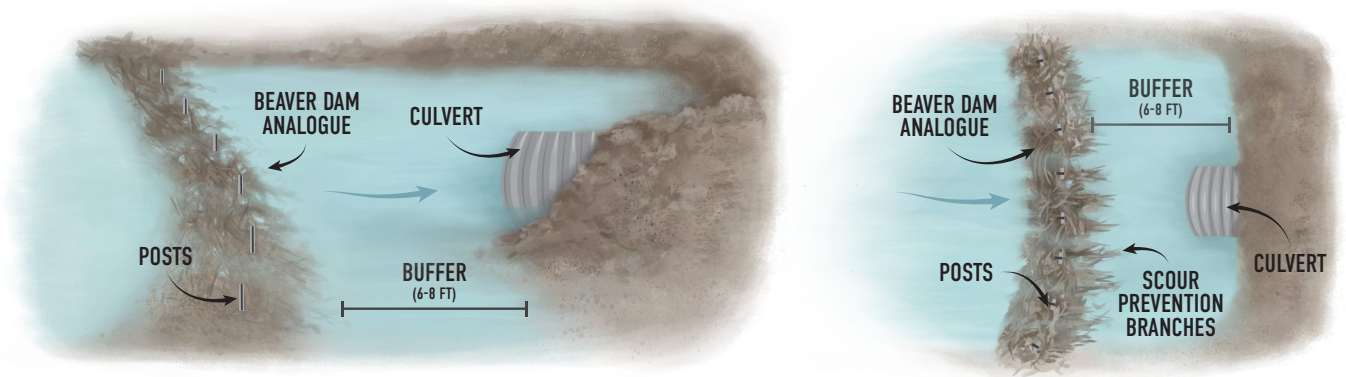
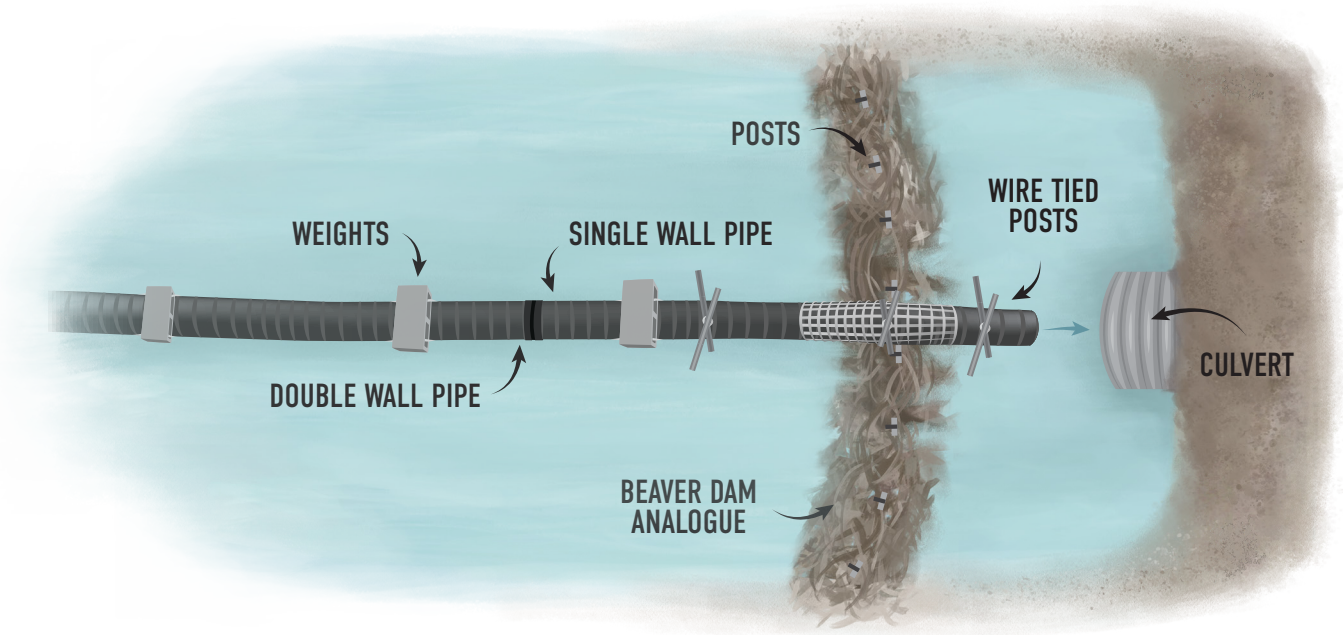

Figure 11. Anchor dam using a post-less BDA that is reinforced with steel posts.
Figure 12. Combination of an anchor dam and pond leveler to create a pipe and dam culvert protection system.
An **anchor dam** (Figure 11) is a similar strategy used to protect culverts at sites where fencing should not be used in the stream. This tactic includes construction of a Beaver Dam Analog (BDA) reinforced with steel posts—just upstream of the culvert mouth. While this tactic does not exclude the beavers from the infrastructure, it can divert them into investing and improving upon the reinforced BDA as their new dam, leaving the culvert open. This design can be modified to accommodate a pond leveler through the reinforced BDA if the extent of the upstream beaver pond must be limited. The modification of adding a pond leveler to an anchor dam is often called a **pipe and dam** culvert protector (Figure 12).
2. Stabilize with heavy-duty steel posts, firmly driven into the streambed no less than 12" apart (Figure 11).
- Position the overflow pipe over the anchor dam, using the same procedure outlined for a natural beaver dam (Figure 12).